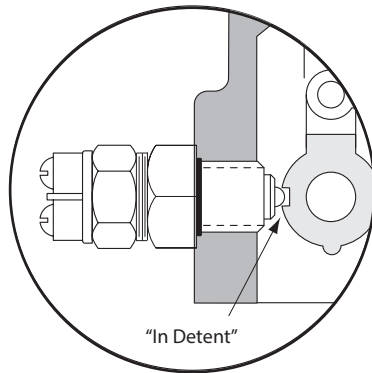

Figure 2-1
- (a). First apply a high temperature water resistant grease to the threads. Screw the switch in slowly, while moving the hydraulic control arm back and forth, until "detent" action is detected in the arm movement. See figure 2-1 . Back out the switch until the "detent" action is very slight. Then position the arm out of the detent position (figure 2 -2 ).